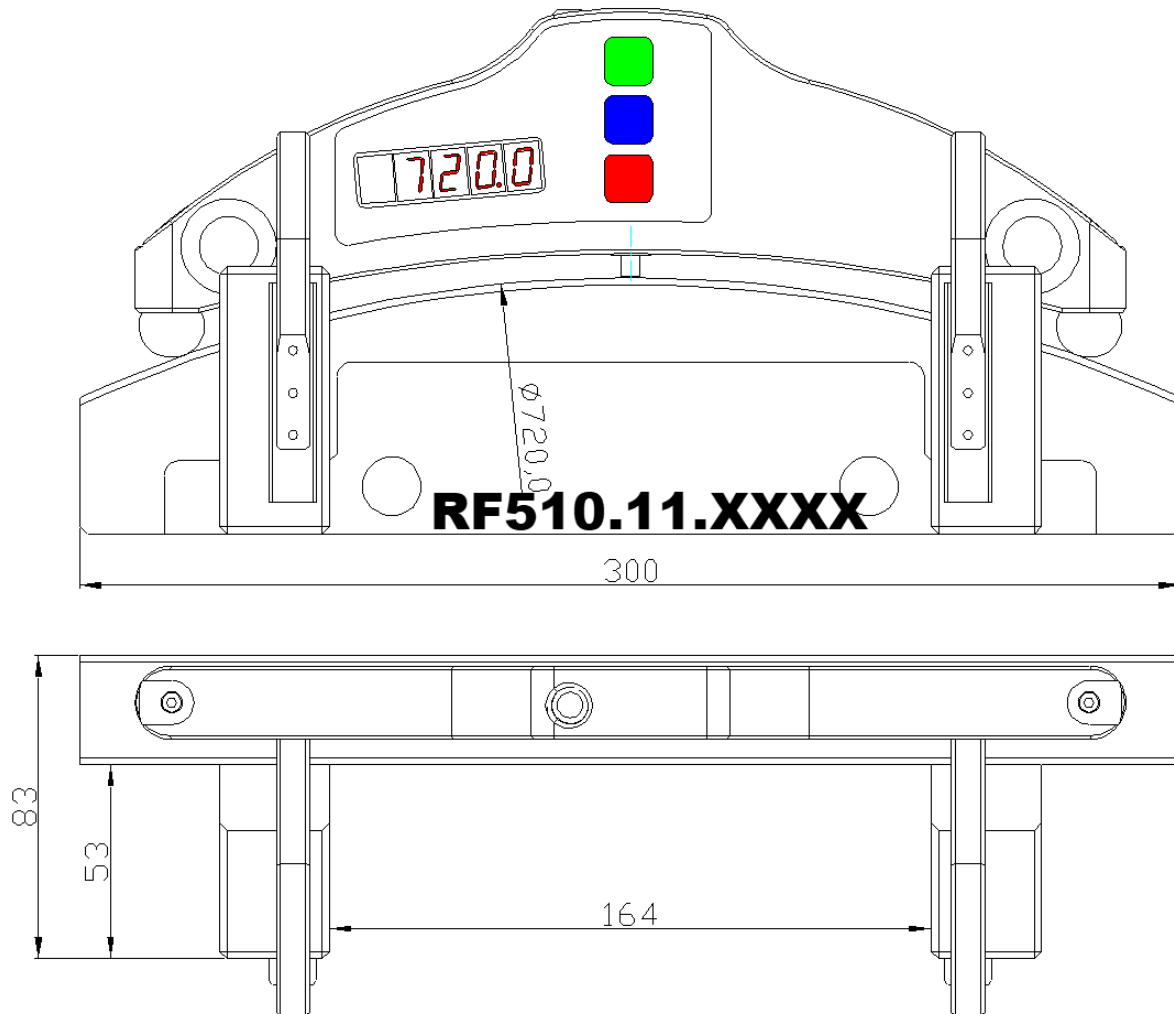

Figure 2
- Reference wheel of the known diameter (or Reference wheel block RF510.11.850, Figure 2).